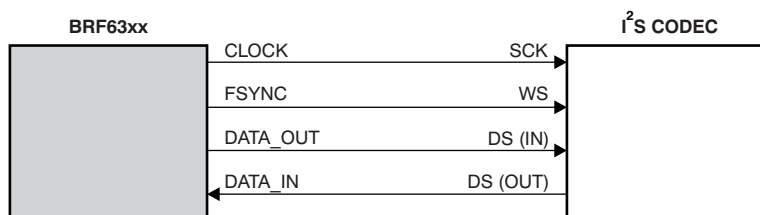

Figure 8. BRF63xx as I²S Master
The I²S bus consists of three serial bus lines: a line with two time-division multiplexing data channels (SD), a word-select line (WS), and a continuous serial clock line (SCK). The BRF63xx implements this interface using its standard PCM lines, with `FSYNC` = WS, `DATA_IN/OUT` = SD and `CLOCK` = SCK. The BRF63xx can act as an I²S master (providing WS and SCK), or as an I²S slave (receiving WS and SCK), as shown in Figure 8.